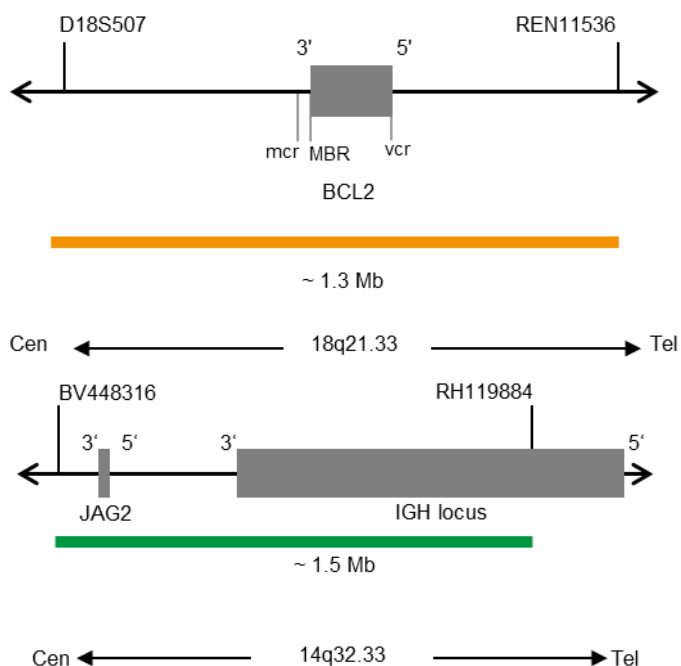

Fig. 1: Top: SPEC BCL2 probe map; Bottom: SPEC IGH probe map (not to scale)
- ZyOrange (excitation 547 nm/emission 572 nm) labeled polynucleotides (~6 ng/μl), which target sequences mapping in 18q21.33* (chr18:60,180,078-61,507,691) harboring the BCL2 gene region (see Fig. 1).
- ZyGreen (excitation 503 nm/emission 528 nm) labeled polynucleotides (~12 ng/μl), which target sequences mapping in 14q32.33* (chr14:105,462,169-106,995,000) harboring the IGH locus (see Fig. 1).